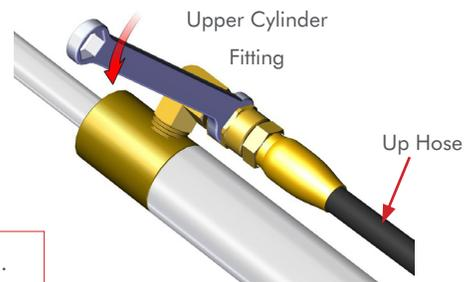

Figure 1
STEP 1 Loosen the **UP Hose** from the **Lower Cylinder Fitting** using a **5/8" Wrench**. Cover the hose end with masking tape. **FIG 1**